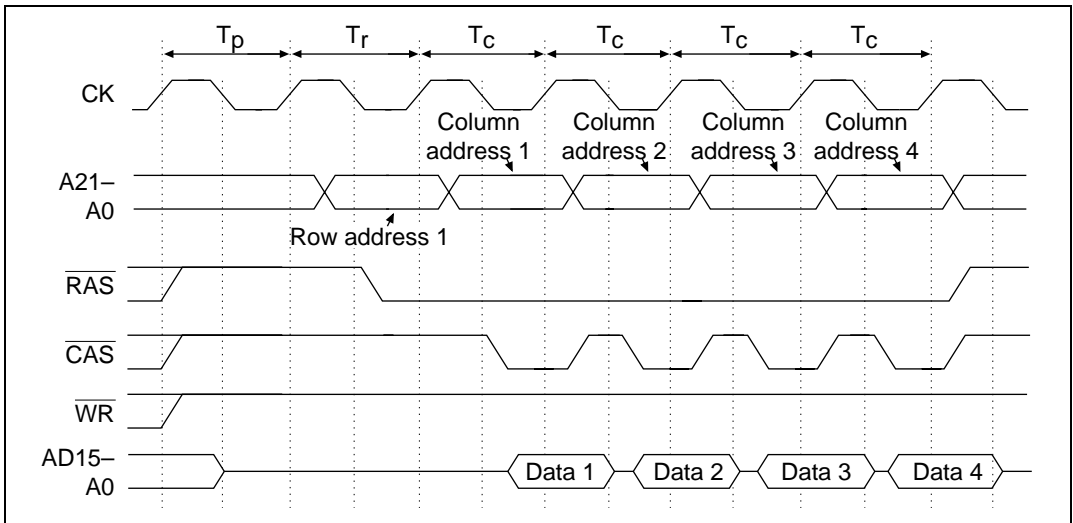

Figure 8.23 Short-Pitch, High-Speed Page Mode (Read Cycle)
- Short-pitch, high-speed page mode: When the RW1, WW1, DRW1, and DWW1 bits in WCR1 and WCR2 are cleared to 0, and the corresponding DRAM access cycle is continuing, the $\overline{\text{CAS}}$ signal and column address output cycles continue as long as the row addresses continue to match. The column address output cycle is performed in 1 state and the $\overline{\text{WAIT}}$ signal is not sampled. Figure 8.23 shows the read cycle timing for short-pitch, high-speed page mode.